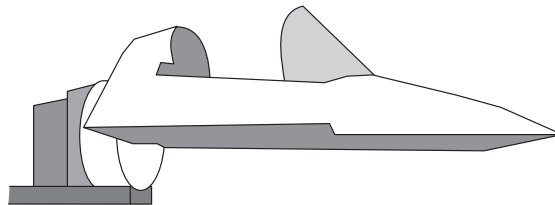

Figure Q2
2. A test-rig for a microcontroller-controlled ejection seat for an aircraft is shown in Figure Q2. It fires the pilot clear of the aircraft in an emergency. An increasing rate of acceleration reduces the risk of pilot injury.